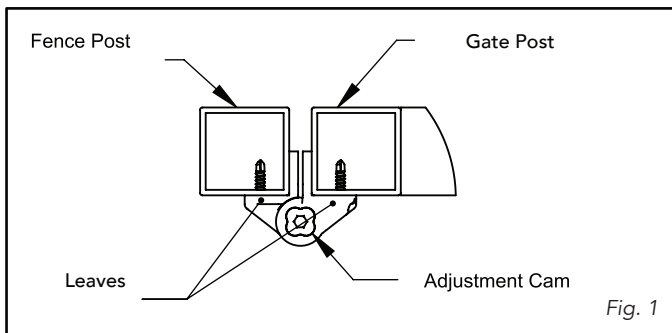
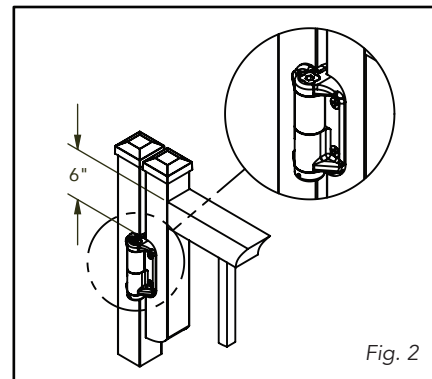

Fig. 1
Fig. 2
The hinge should be mounted (Fig. 1). The leaves should be positioned on the outside surface of the posts when the gate is closed. The top surface of the upper hinge should be mounted within 6" of the top surface of the top rail, and the bottom surface of the lower hinge should be mounted within 6" of the lower surface of the lower rail (Fig. 2).
- Slide the latch body down over the upper bracket (Fig.3). Use a measuring device to locate the top of the latch at the PROPER HEIGHT (Fig.1). "REFER TO ALL LOCAL BUILDING CODES".